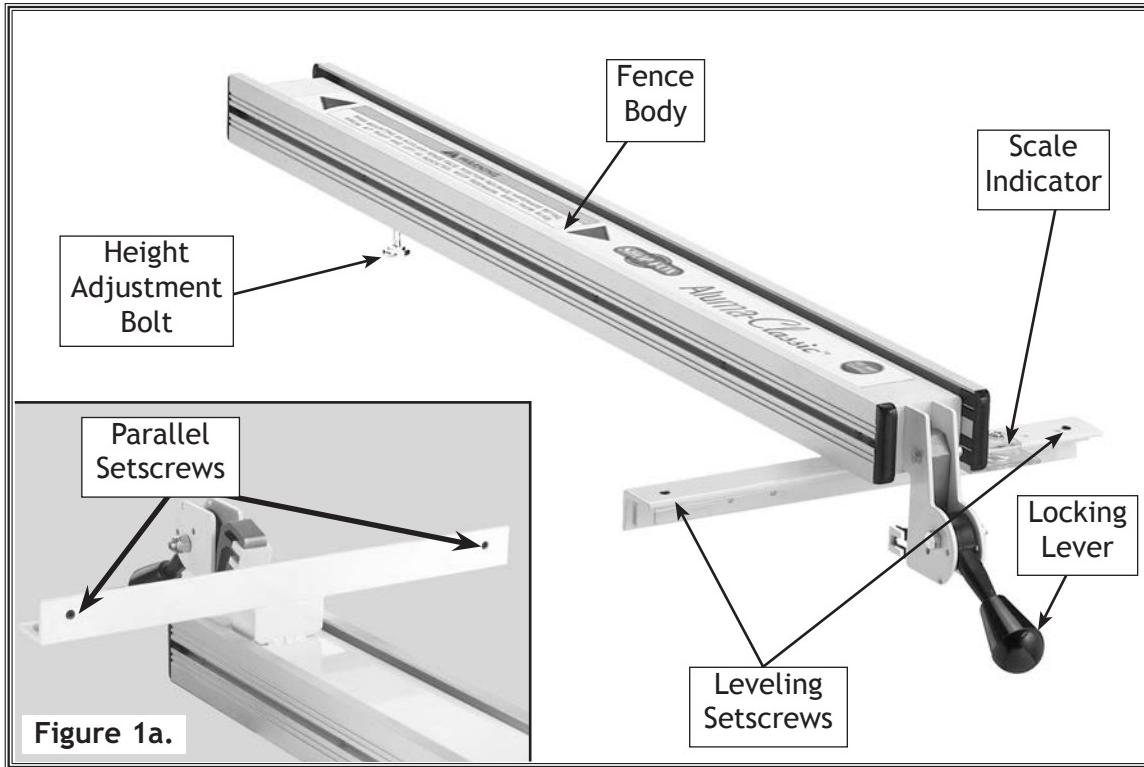

Figure 1. Fence features.
For proper operation it is important to know your machine and its components. Please take the time to learn the features shown in **Figure 1 & 1a** below.
Take the time to familiarize yourself with the features of your new **SHOP FOX® Model W1716/W1720 Aluma-Classic™ Fence**. They will be frequently mentioned throughout the instructions in this manual. **Figure 1** points out the key features and their locations.
5. Slide the extension rail over the T-bolts as shown in **Figure 1** until the rail is flush with the end edge of the left table wing.